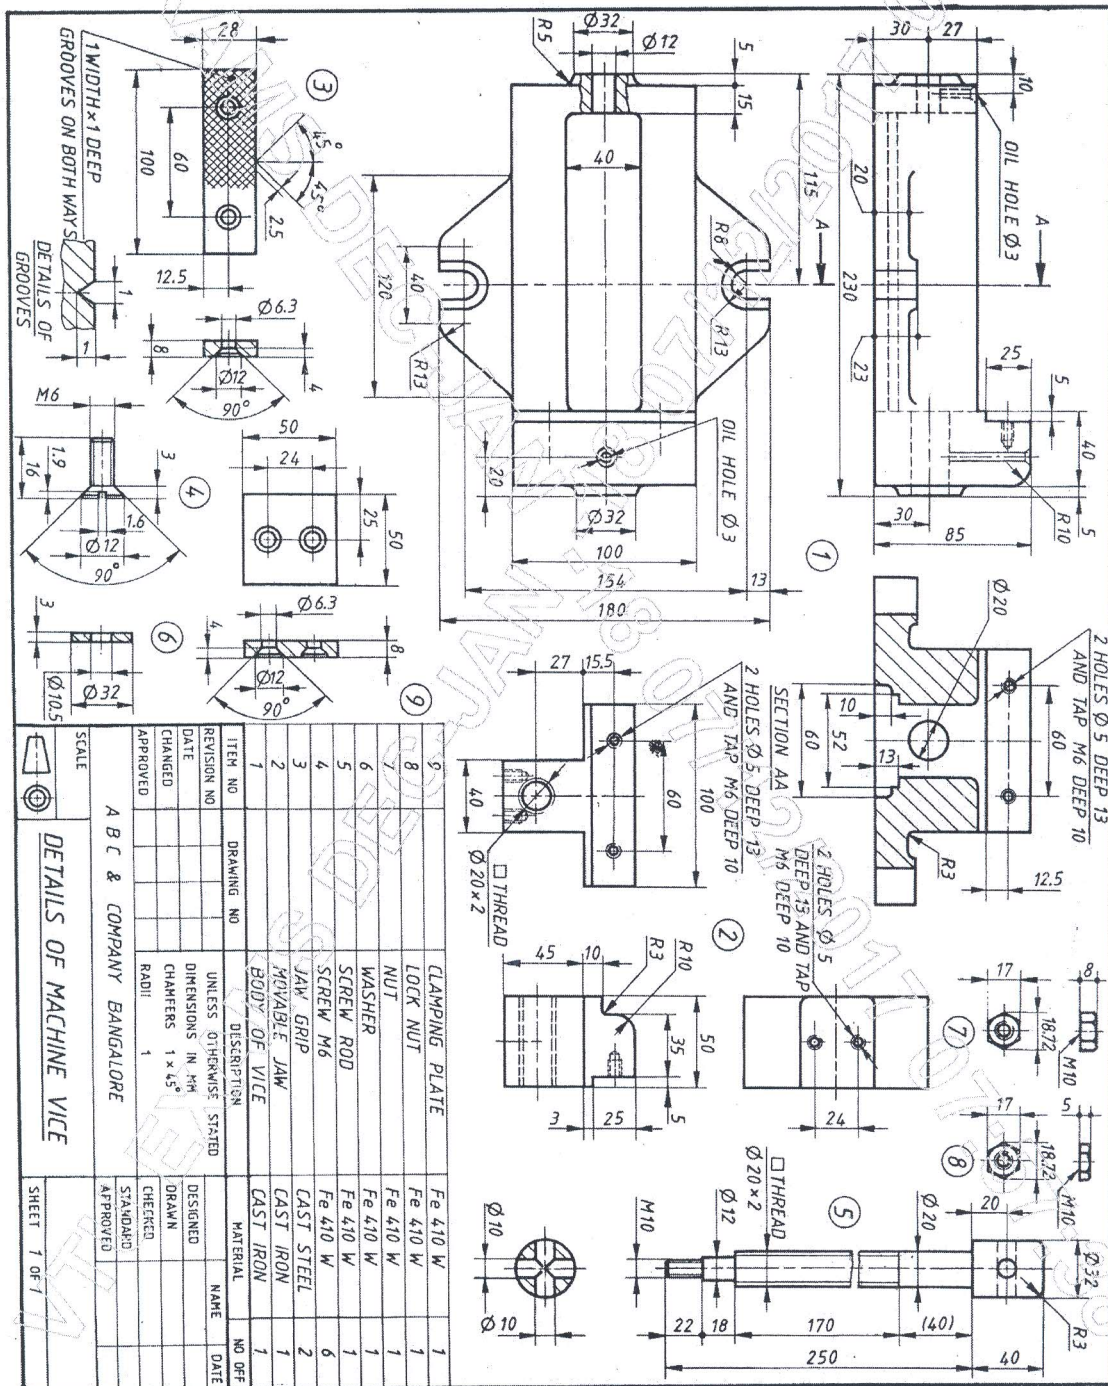

Figure 2. MACHINE VICE
- Q.No.5** Details of MACHINE VICE is shown in following Figure 2. Assemble the parts and draw the following views. (a) Sectional Front View (b) Top View. (50 Marks)